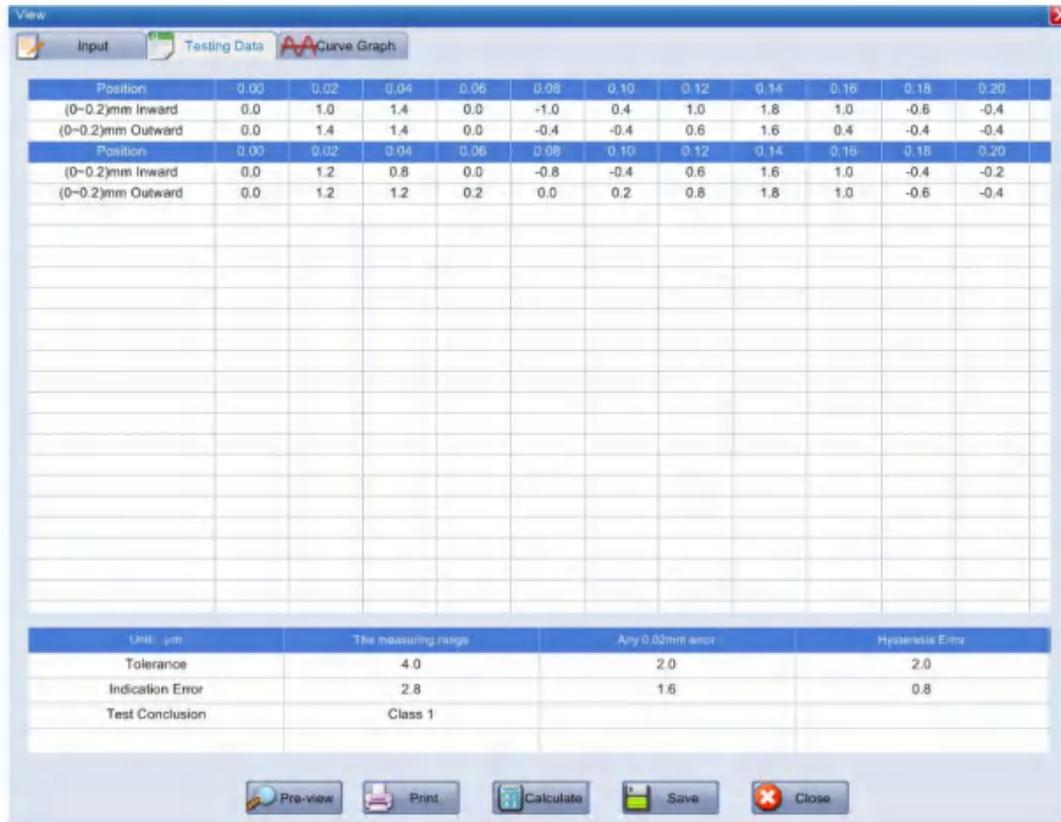

Figure 5-19 Record of dial test indicator
7. By clicking the “View record” button, you can view the input measurement information, measured data and error curves and preview the report. See figures 5-19 and 5-20.